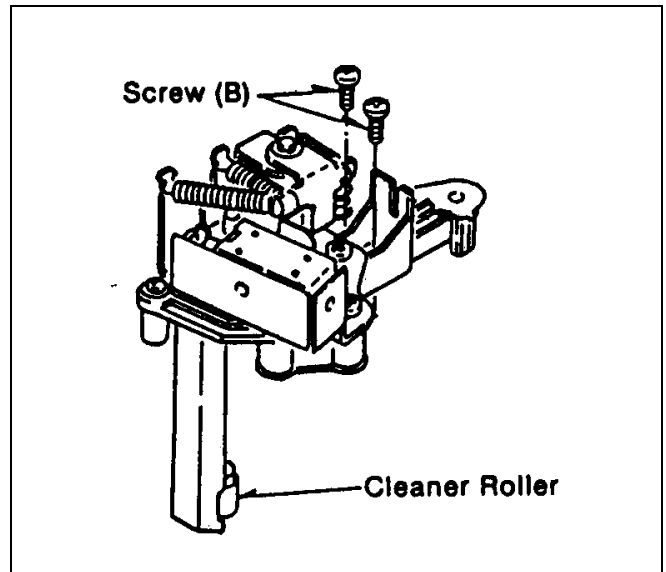

Figure 7-26-1 Cleaner Solenoid Removal
2. Unscrew 2 screws (A) and remove cleaner unit as shown in figure 7-26-1.
3. Unscrew 2 screws (B) and remove cleaner solenoid unit as shown in figure 7-26-1.
2. Confirm that the clearance (A) is 0.3mm – 0.4mm as shown in figure 7-26-1.